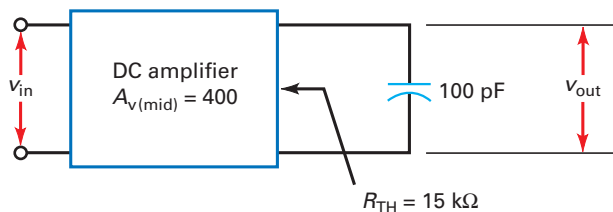

Figure 34-26
34.25 What is the ideal Bode plot for the stage of Fig. 34-26?